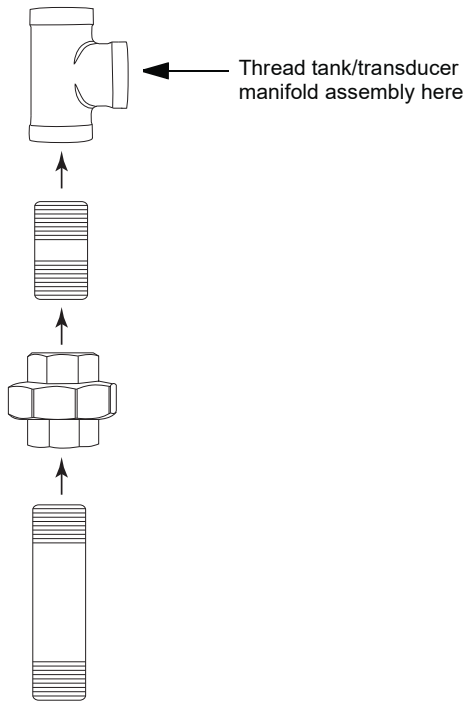

Fig. 7 Threading tank/transducer manifold assembly to discharge tee
7. Thread the tank/transducer manifold assembly to discharge tee as shown in fig. 7. Tighten wrench tight.